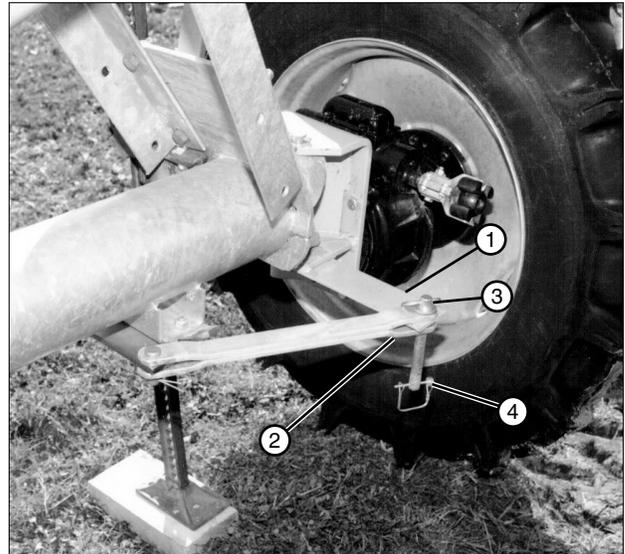

Figure 29-2 1. Steering Arm 2. Tow Link Bar Yoke 3. Torque Pin 4. Lynch Pin
9. Position steering arm in tow link bar yoke, align holes, then attach steering arm to tow link bar with torque pin. Secure torque pin with lynch pin. See figure 29-2.